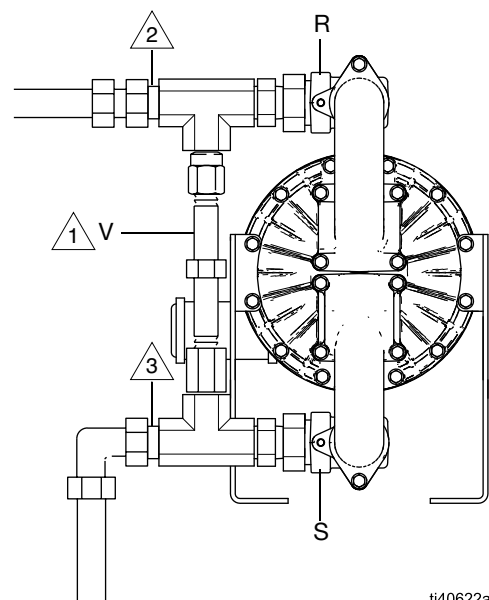

FIG. 5: Fluid Pressure Relief Valve
- **Fluid drain valve (J):** required in your system, relieves fluid pressure in the fluid line.
- **Fluid pressure relief valve (V):** relieves fluid pressure in the fluid line. See FIG. 5.
- **Fluid shutoff valve (K):** shuts off fluid flow.